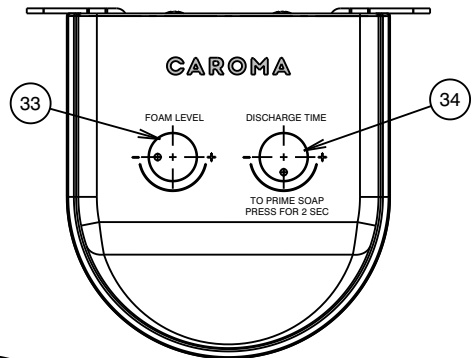

Fig.10 - Soap control unit functions
- * Trim kit (2-34) and body kit (1) are supplied separately.
- * It is recommended to use water based foam soap; However, a non-water based liquid soap can also be used. Soap solution viscosity should be within 100 to 2500 cps. For high viscosity soap solutions, the foam level knob (33) must be set to minimum at '-' no air to enable smooth dispensing. For water based solutions, the foam level knob (33) must be turned anti-clockwise towards '+' max. air. (See Fig. 10)
- * Soap control unit must be primed before first use and after every refill. Follow priming instructions, as shown in Fig.10.
- * The soap control unit (12) is mains powered only. Separate battery box (20) is supplied which can be used as a battery backup.
- * The soap tube (8), air tube (9) and sensor cable item (14) in the trim kit are 1.5m long.